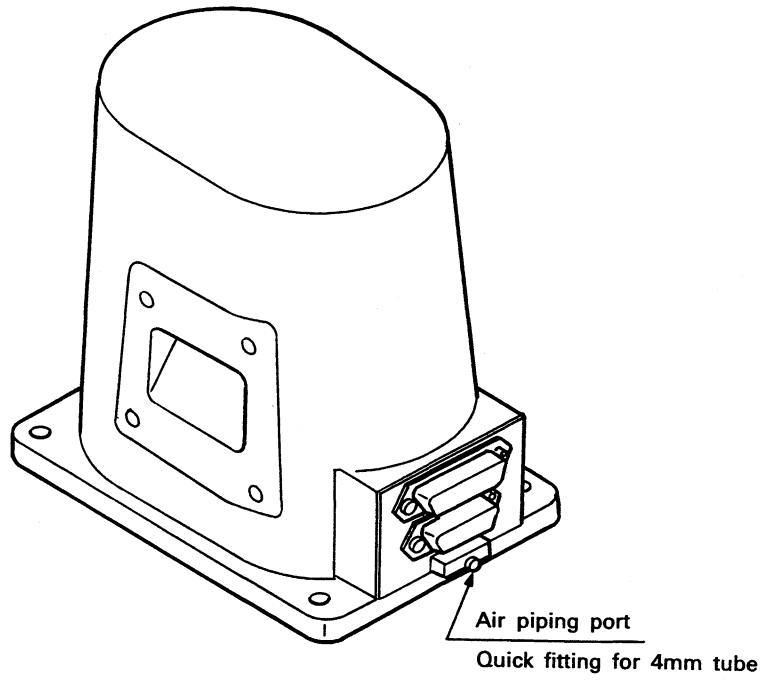

Fig. 2.1.15 Air Piping Port
1.7.3 Checking opening and closing of the hand (1) Set the hand select switch of the drive unit to the AC position in accordance with "Section 2.1.3, Vol. 2".
- (2) Connect the air line to the air piping port (quick fitting for 4mm dia. air tube) shown in Fig. 2.1.15. The supplied air must be clean.
- (3) The RV-M2 may only be used with a single solenoid. At power off or emergency stop, therefore, the air is supplied from the port "B" of the solenoid valve. Connect the air tube taking the hand opening/closing operation at power off into consideration.
- (4) By pushing the hand open key on the teaching box, the air is supplied from the port "B" of the solenoid valve. Since the hand opening/closing operation at power off have been taken into consideration, the actual hand operation may be reverse to the teaching box key control.